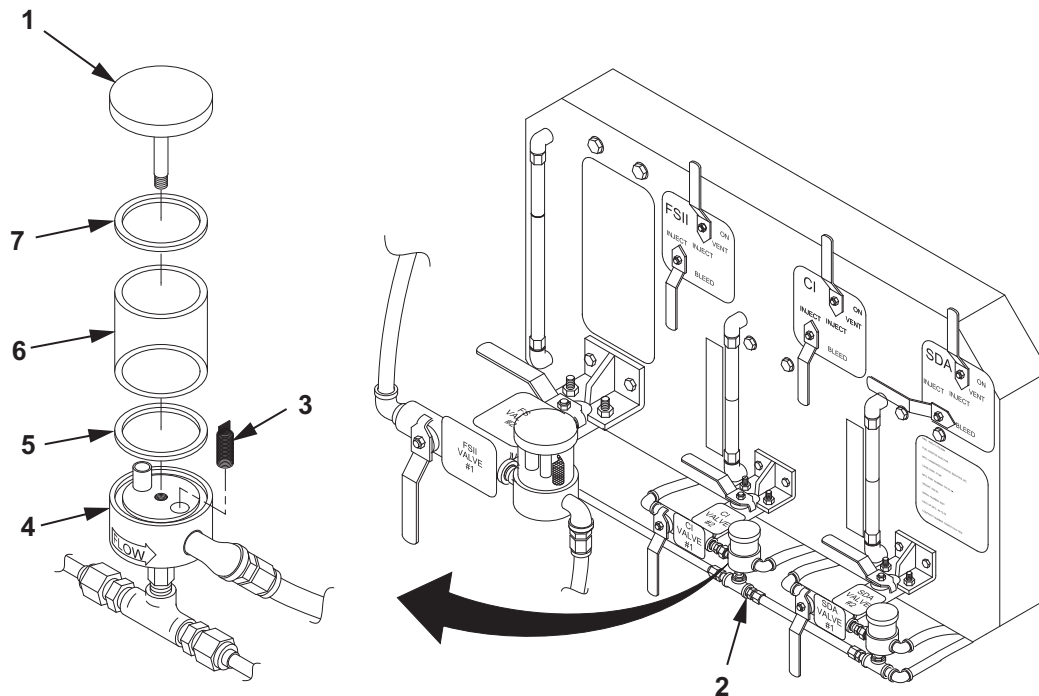

Figure 1. SDA Sight flow Indicator Maintenance.
1. Install filter element (Figure 1, Item 3) in body (Figure 1, Item 4).
2. Apply thin coat of petrolatum to new O-rings (Figure 1, Item 7, 5).
3. Install new O-ring (Figure 1, Item 5) on body (Figure 1, Item 4) of sight flow indicator (Figure 1, Item 2).
4. Install glass (Figure 1, Item 6).
5. Install new O-ring (Figure 1, Item 7) on cap (Figure 1, Item 1).
6. Install cap (Figure 1, Item 1) on body (Figure 1, Item 4) of sight flow indicator (Figure 1, Item 2). Hand tighten.